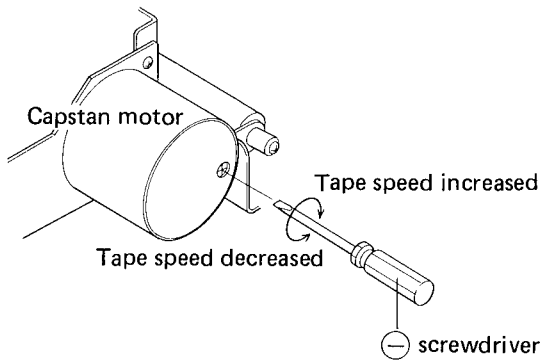

Fig. 7-2 Tape speed adjustment
- Play back the 3kHz portion of the STD-301 test tape. At the beginning, the frequency should be lie within the 2995Hz ~ 3010Hz range, and may be adjusted by turning the semi-fixed resistor located in the capstan motor adjustment hole as shown in Fig. 7-2.